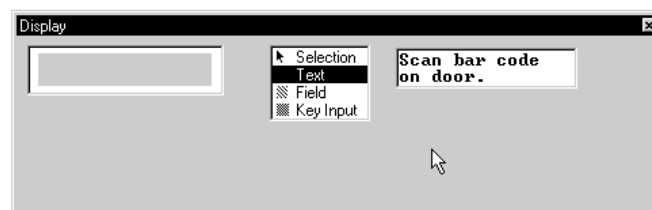

Figure 4-69 “Instruct2” Handler Message
42. At the **Display** window, type **Scan bar code** on the top line, and type **on door.** on the second line (Figure 4-69).